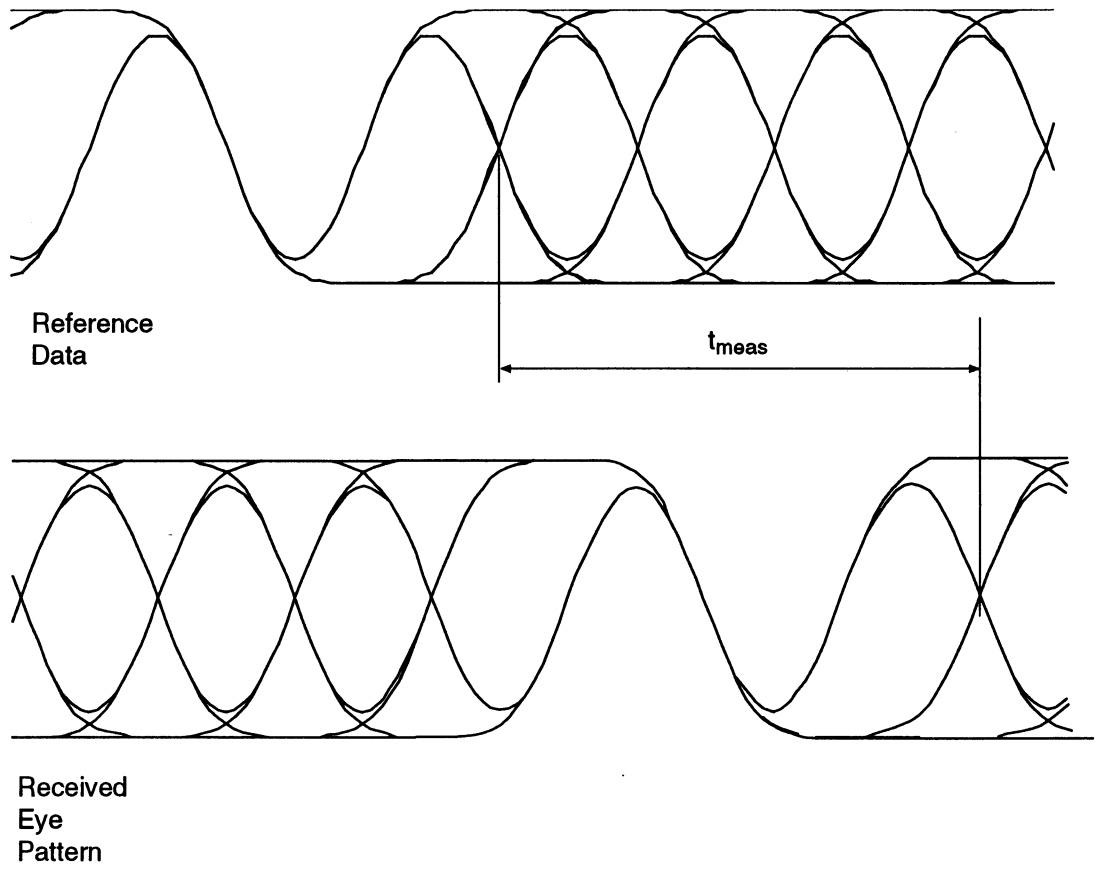

Figure 35. Two-Level Time Delay Measurement #2
- Step 26. Select the scope timebase so the oscilloscope looks similar to Figure 35.